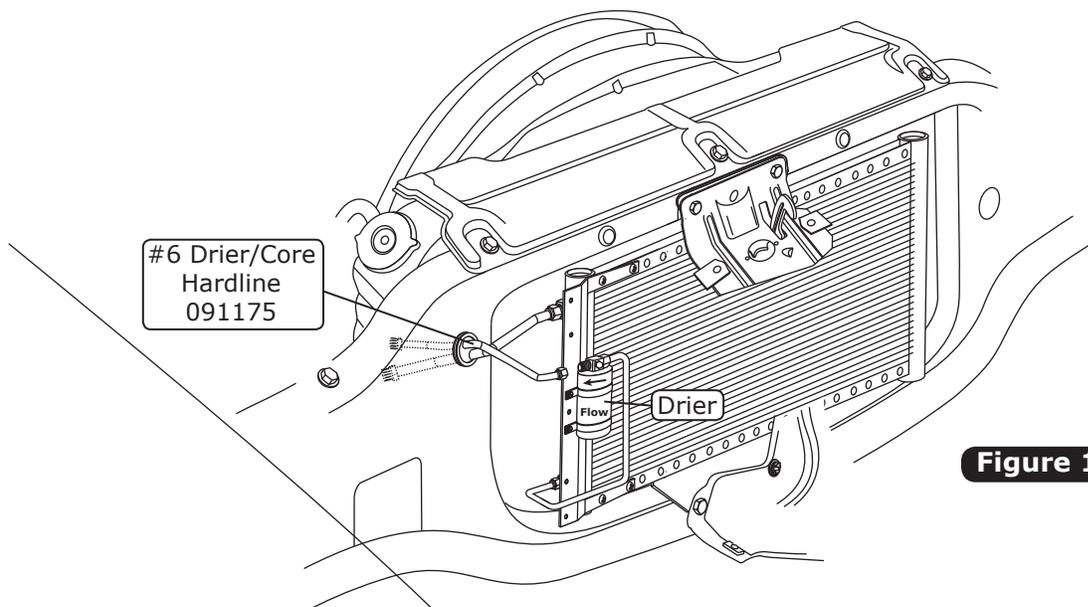

Figure 11
5. Install the #6 drier/core hardline onto the drier (See Figure 11, below). Tighten fittings as shown in Figure 6, Page 9.